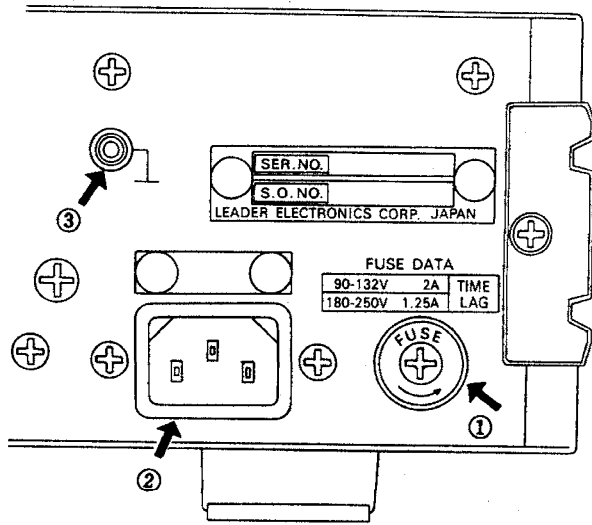

Figure 4.1
4.1 Power Supply (See Figure 4.1 and 4.2)
① Use specified fuse as designated on the rear panel when replace it.